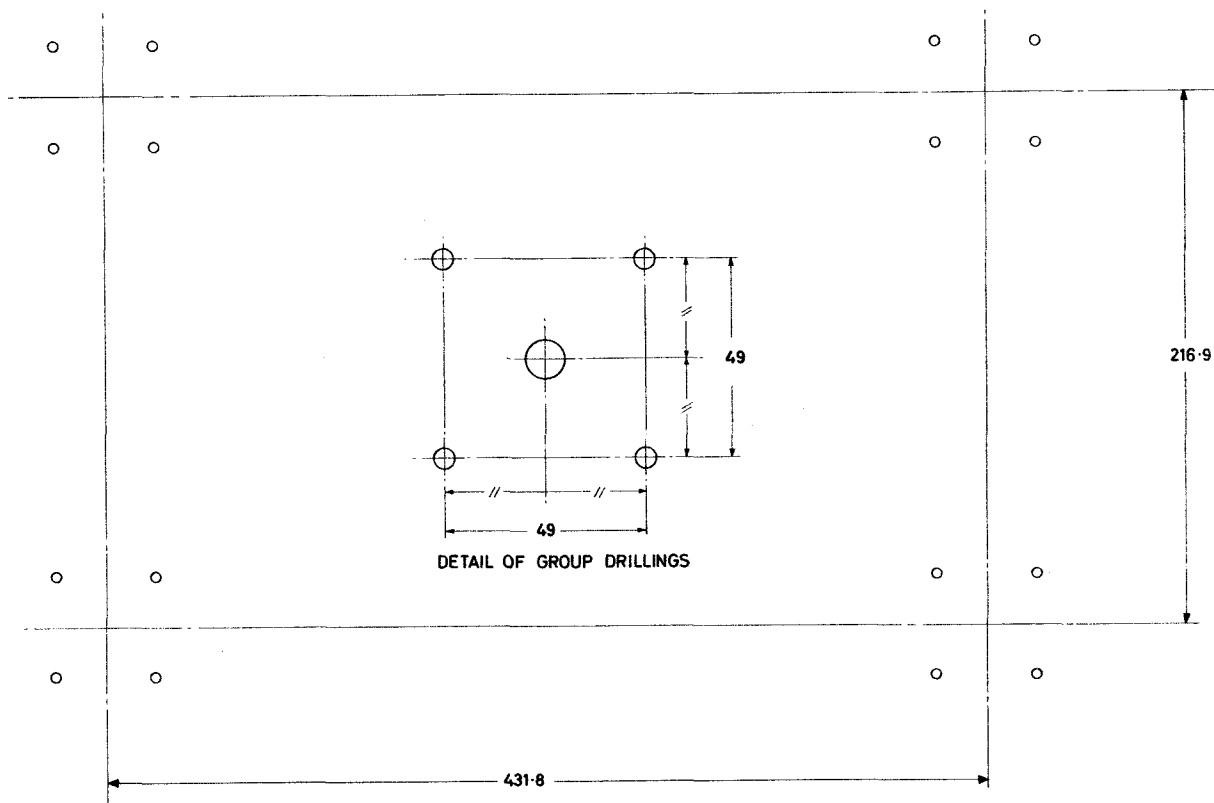

Fig 2.2. Drilling details for fixing Anti-Vibration Mountings Cat. No. 1547
2. If access to the underside of the mounting surface (ie the bench or shelf) is available, drill 16 clearance holes on the centres shown in Fig 2.2. to enable the anti-vibration mountings to be bolted to the surface. If access to the underside of the surface is not available, these holes must be drilled and tapped to take suitable hexagon-headed screws.